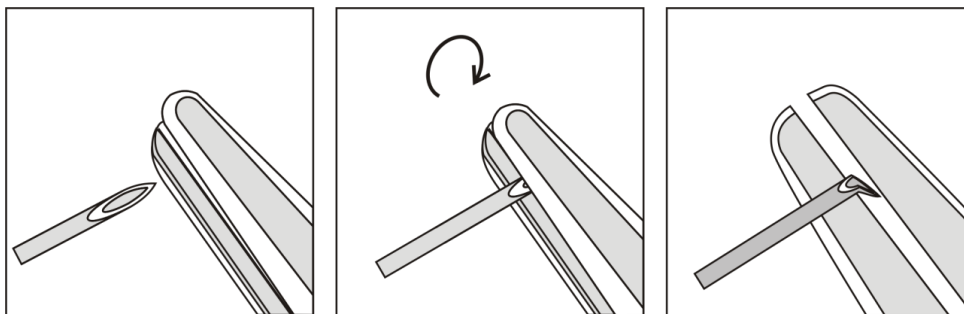

Figure 2. Bending Needle for Catheter Placement
1. Prepare an 18 or 20g needle by bending the beveled tip (holding the bevel up) to a 90° angle (see Figure 2). This can be used to puncture the vessel and introduce the catheter.